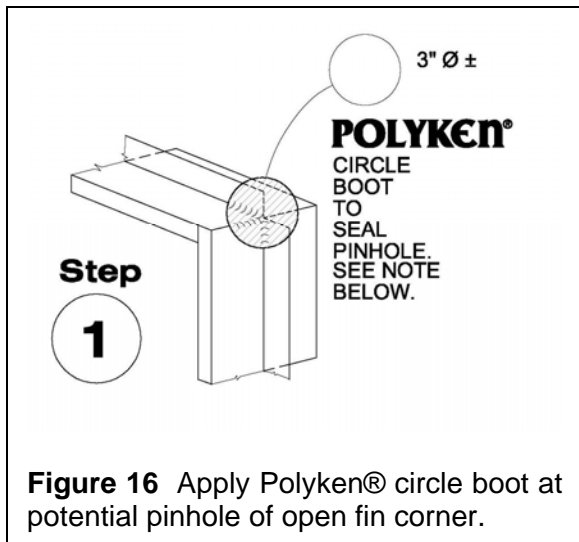

Figure 16 Apply Polyken® circle boot at potential pinhole of open fin corner.
Step 1. Apply Polyken® and Nashua® circle boot at position of the potential pinhole. See Figure 16.